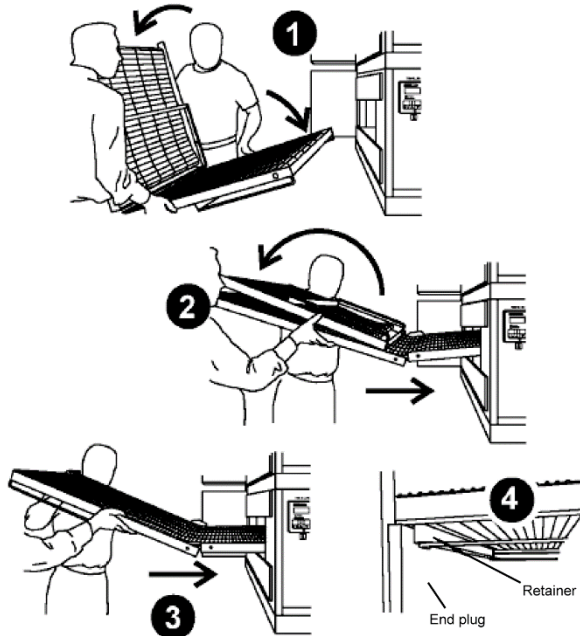

Figure 24. Conveyor Installation
- 1. Install the crumb trays underneath the conveyor as shown in Figure 24.